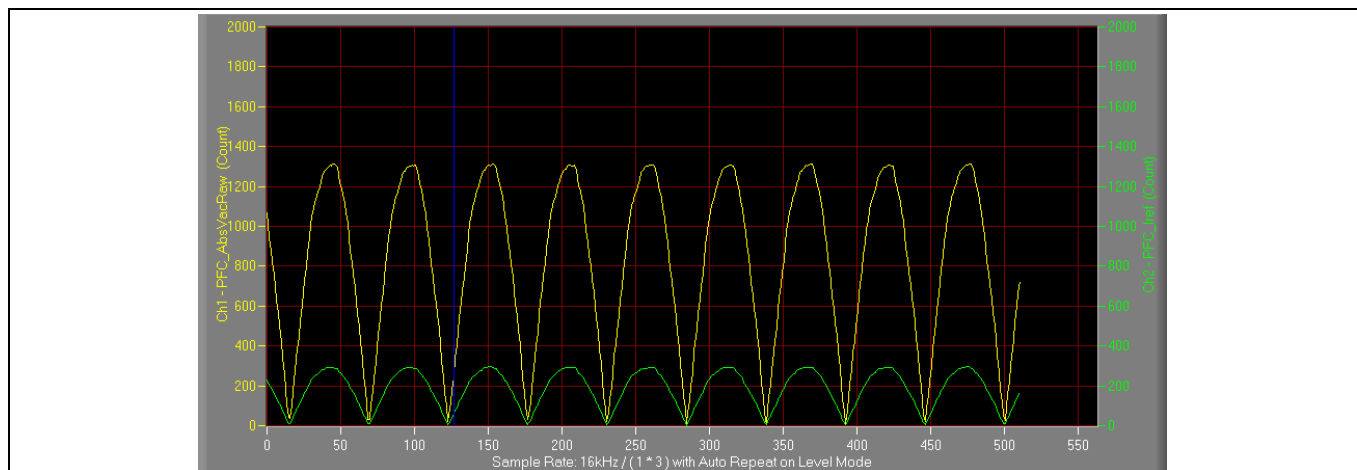

Figure 20 PFC_AbsVac & PFC_Iref
4. If motor closed loop is tuned up, then the PFC can start when the motor is running. Starting the "PFC_AbsVac & PFC_Iref" trace with "Auto Repeat on Level" (see Figure 20) will show the PFC performance. The default PFC DC bus target value is set in MCEWizard "Target DC Bus Voltage Initialization."